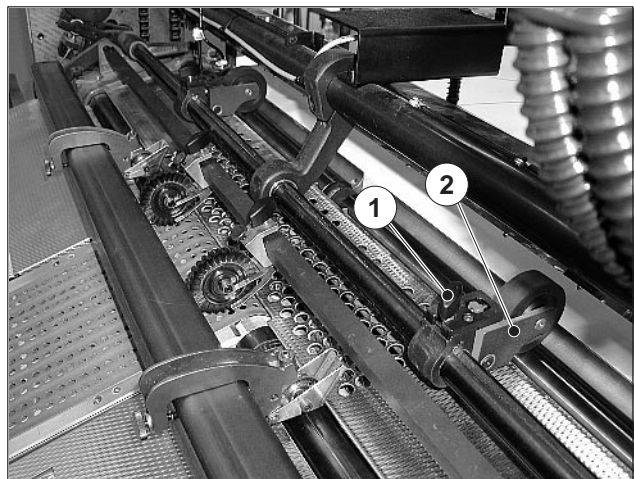

Fig. 60 Forwarding roller
1. Open the tommy bar screw (Fig. 60/1).
2. Move the forwarding roller (Fig. 60/2) to the required position.
3. Tighten the tommy bar screw (Fig. 60/1).